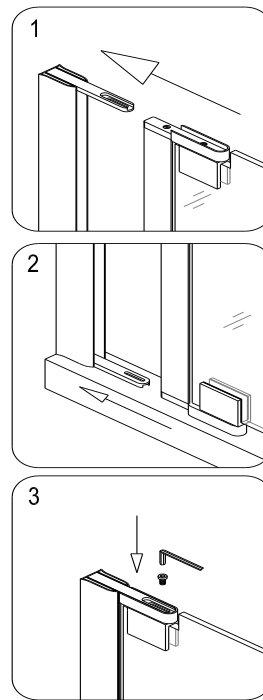

Fig. 6
7. Push the assembled glass door into the groove of the **Wall profile 1**. Secure the **Upper pivot bracket (17)** and the **Upper pivot retainer (15)** with **Hex Socket round head bolt M6x12 (27)**. See Fig. 6, 7 for details.